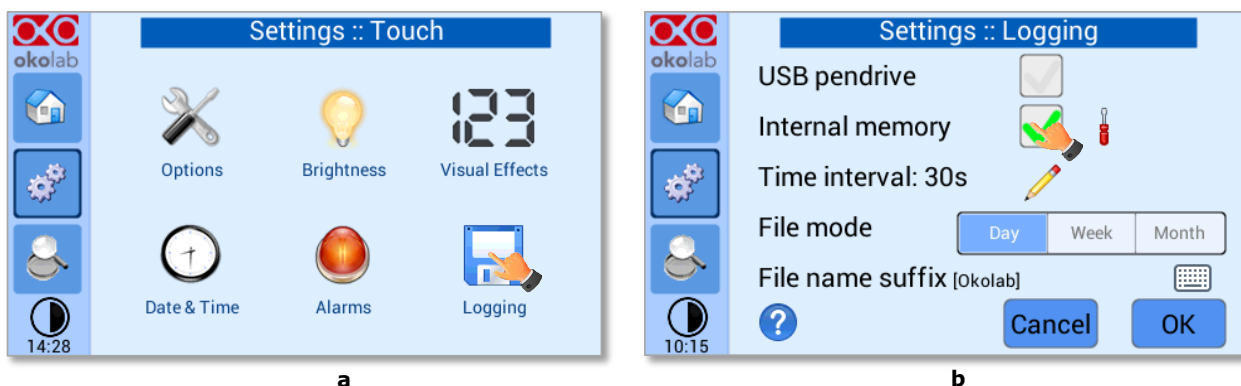

Figure 36. Logging. (a) How to enter in the logging menu; (b) logging in internal memory.
2. Press on Logging icon  (see Figure 36 a) and flag *Internal memory* in the page that appears (see Figure 36 b).